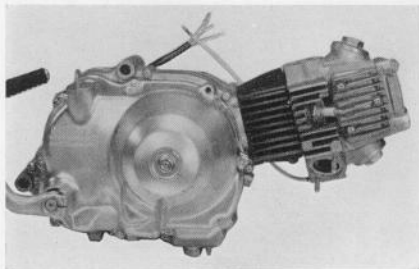

Fig. 3.7 Engine assembly (C90)
10. The engine can be removed. (Fig. 3.7)